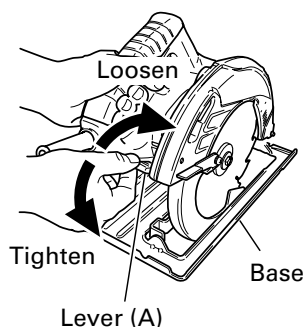
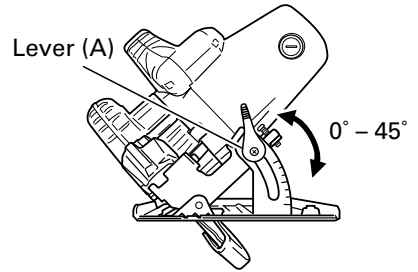

Fig. 10
Fig. 11
7. Check if lever (A) is tightened.
If the lever (A) to adjust cutting depth (Fig. 10) and angle of inclination (Fig. 11) are loose, injury can result. Make sure that they are tightened securely.
1. Adjusting the cutting depth (Fig. 10)
As shown in Fig. 11 by loosening the lever (A) on the bevel scale, the saw blade may be inclined to an angle of 45° in relation to the base.